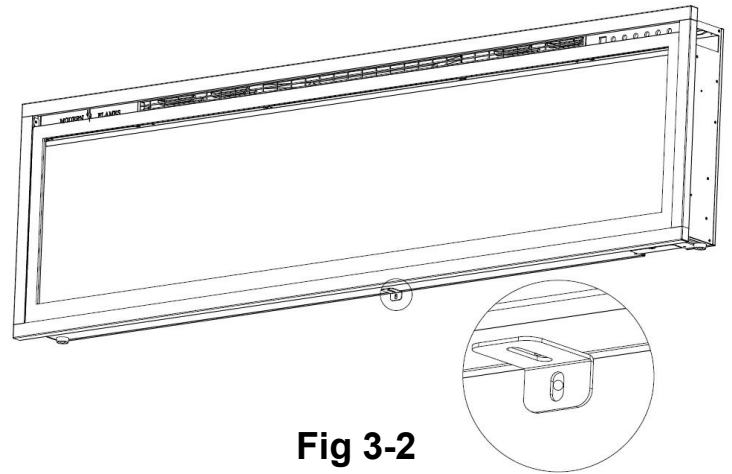

Fig 3-2
B. Using the screw previously removed, attached the L-bracket **(O)** (supplied) to the bottom of the fireplace box. **(Fig 3-2)**